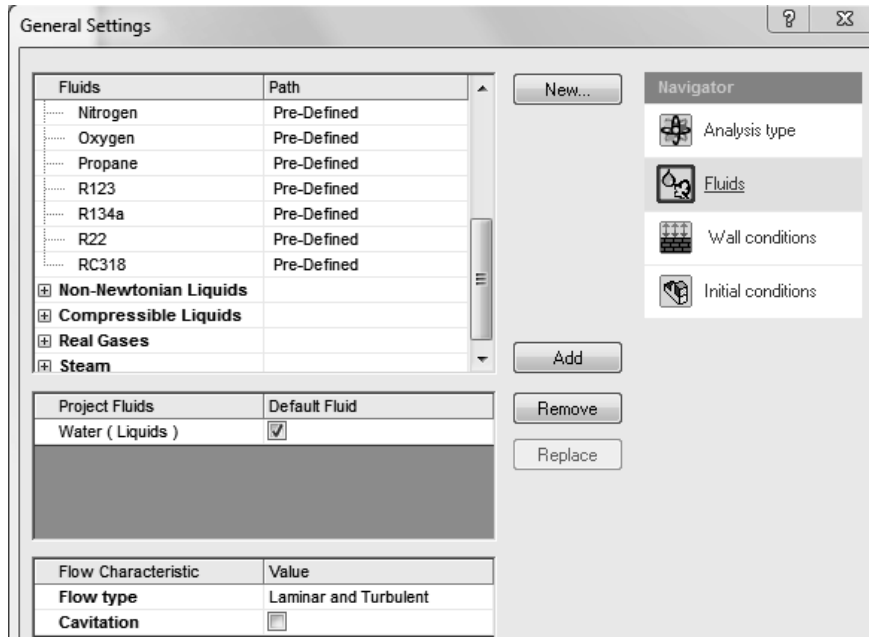

Figure 2.27d) Selection of fluid and flow type
29. In the next step, we will clone the project. Select **Tools>>Flow Simulation>>Project>>Clone Project...** Enter the Project Name “**Flat Plate Boundary Layer Study Using Water**”. Select **Create New Configuration** and exit the **Clone Project** window. Next, change the fluid to water in order to get higher Reynolds numbers. Start by selecting **Tools>>Flow Simulation>>General Settings...** from the SOLIDWORKS menu. Click on **Fluids** in the **Navigator** portion, select **Air** and click on the **Remove** button. Select **Water** from the **Liquids** and **Add** it as the **Project Fluid**. Change the **Flow type** to **Laminar and Turbulent**, see figure 2.27d). Click on the **OK** button to close the **General Setting** window.